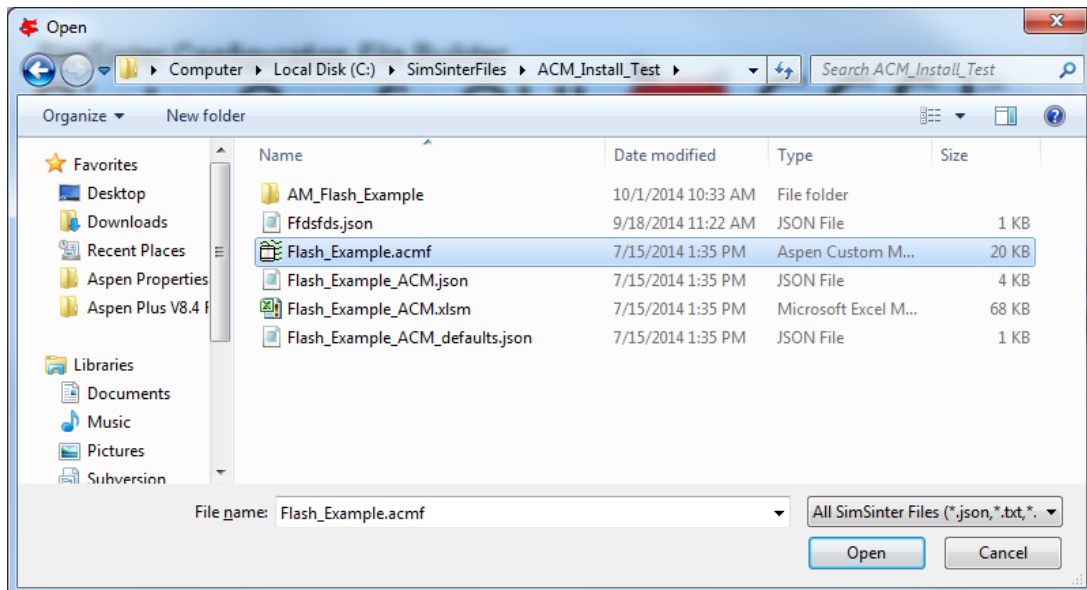

Figure 4: Selecting the simulation file to open
- Click browse and select your file. I will be opening the ACM demonstration file included with SimSinter in C:\SimSinterFiles\ACM_Install_Test, as in Figure 4.